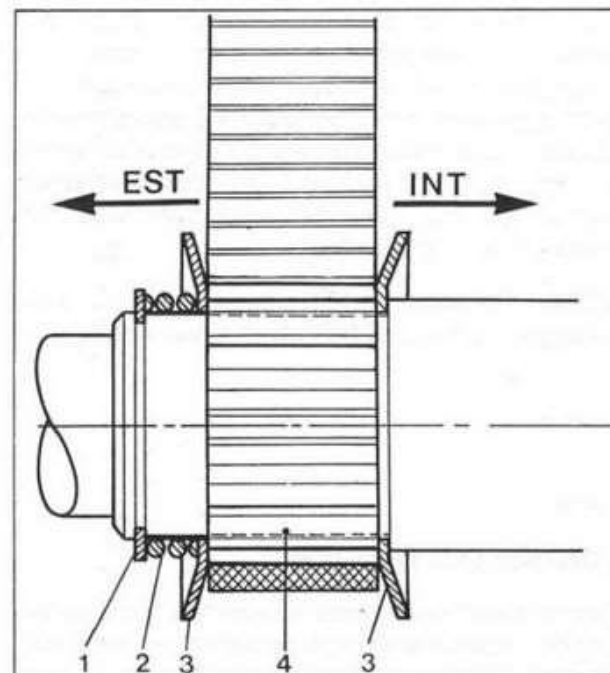

Fig. 117/A
Fit the inner guide plate the right way round (the plate should be fitted as shown in Fig. 117/A, with the curved edge towards the crankcase) onto the crankshaft and install the pulley taking care to place it with the reference mark facing outwards and in line with the keyslot (1) (Fig. 117/B).